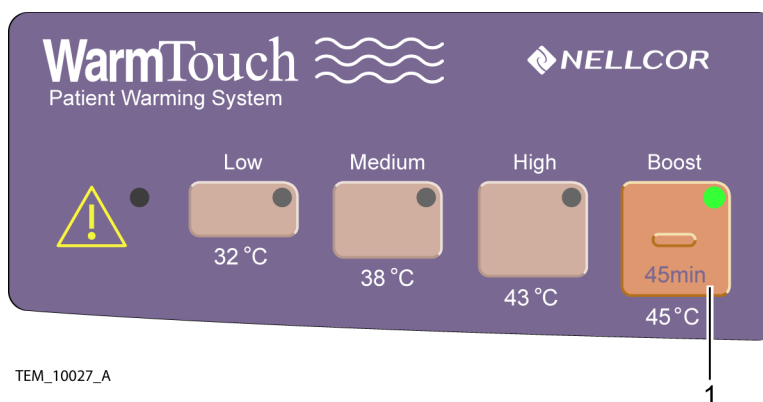

Figure 4-2. WarmTouch Boost Temperature Setting
11. Select the Boost temperature setting. See Figure 4-2.